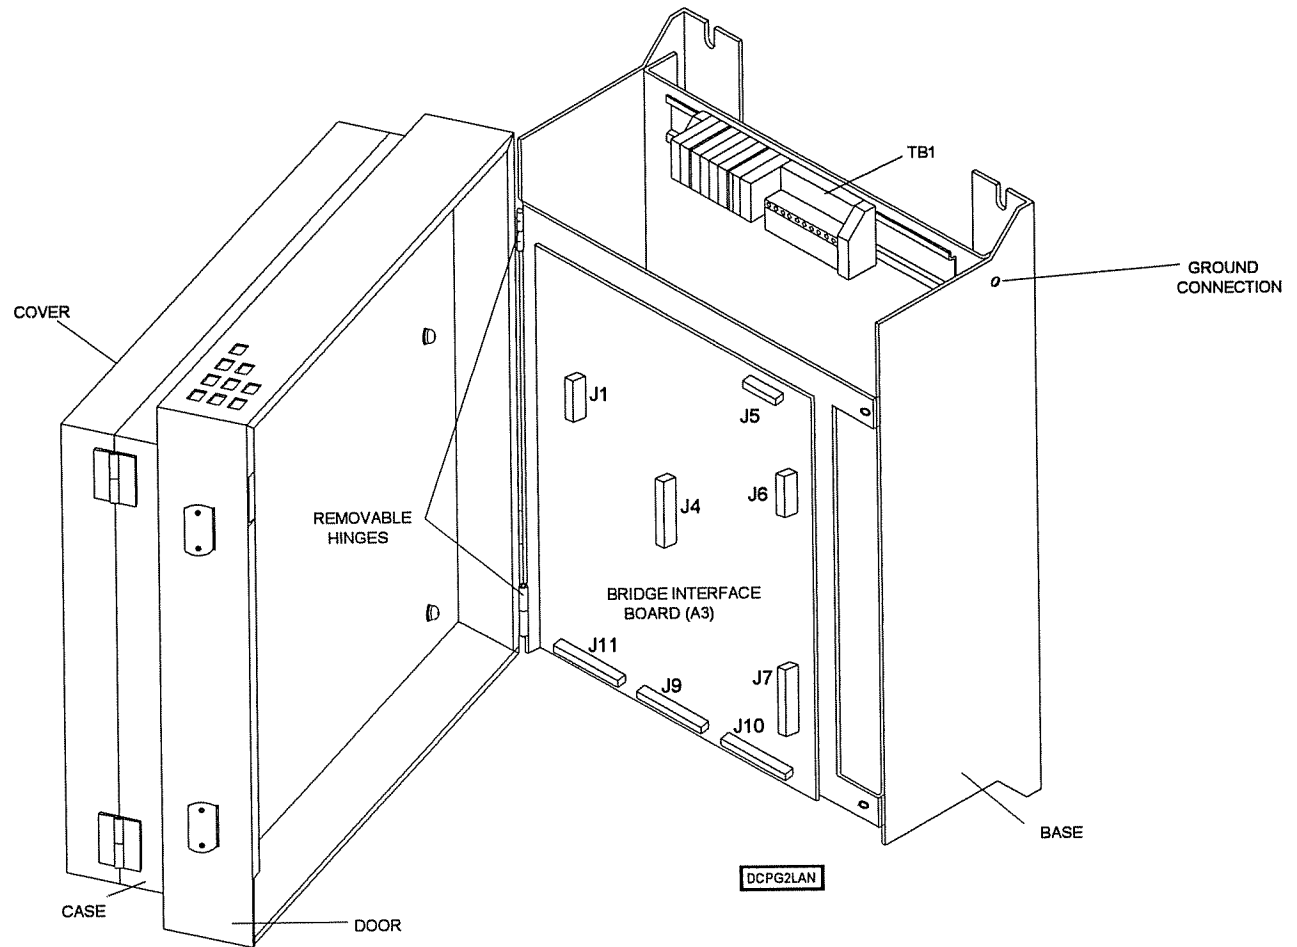

FIGURE 7-2. REPLACING BRIDGE INTERFACE BOARD
7.3.3 REPLACING BRIDGE INTERFACE BOARD (A3) (Refer to Figure 7-2.)